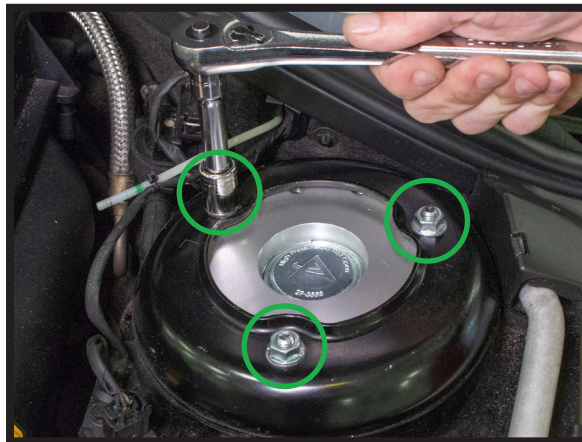

FIGURE 10
3. REINSTALL THE THREE TOP SHOCK MOUNTING NUTS AND TIGHTEN TO MANUFACTURER'S SPECIFICATIONS. (FIGURE 10)